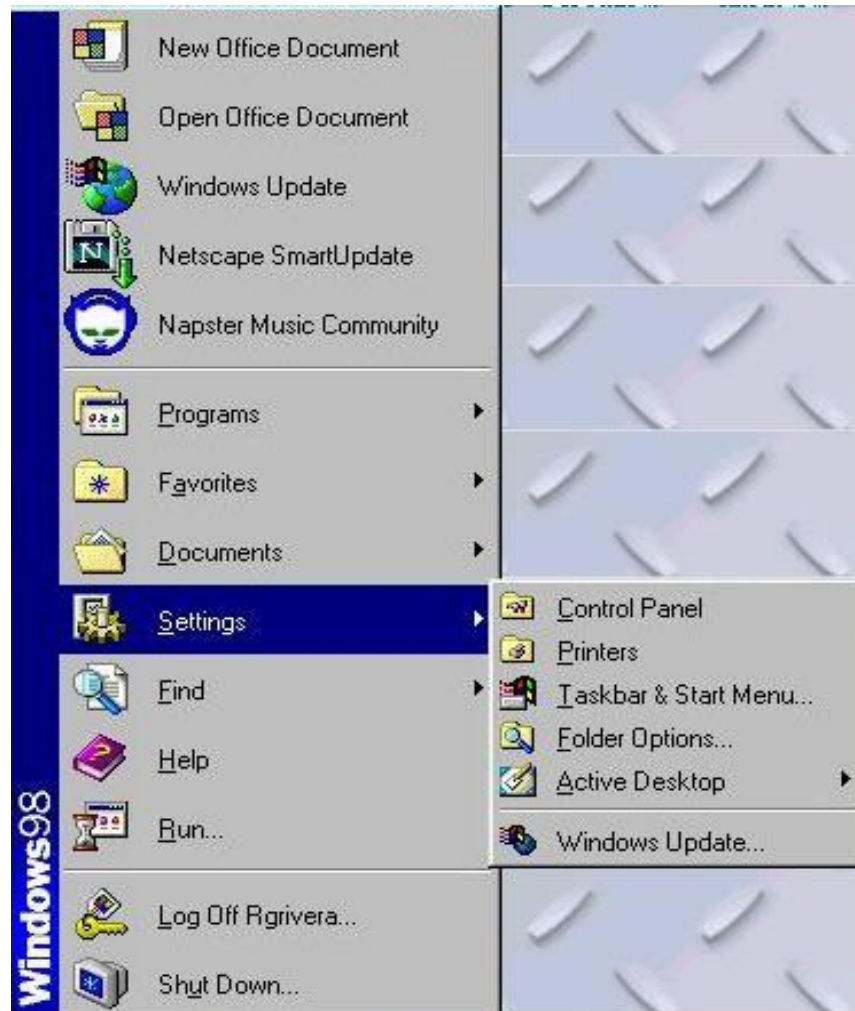

Figure 26
2. Click **Settings** and then click **Control Panel** (Figure 26).